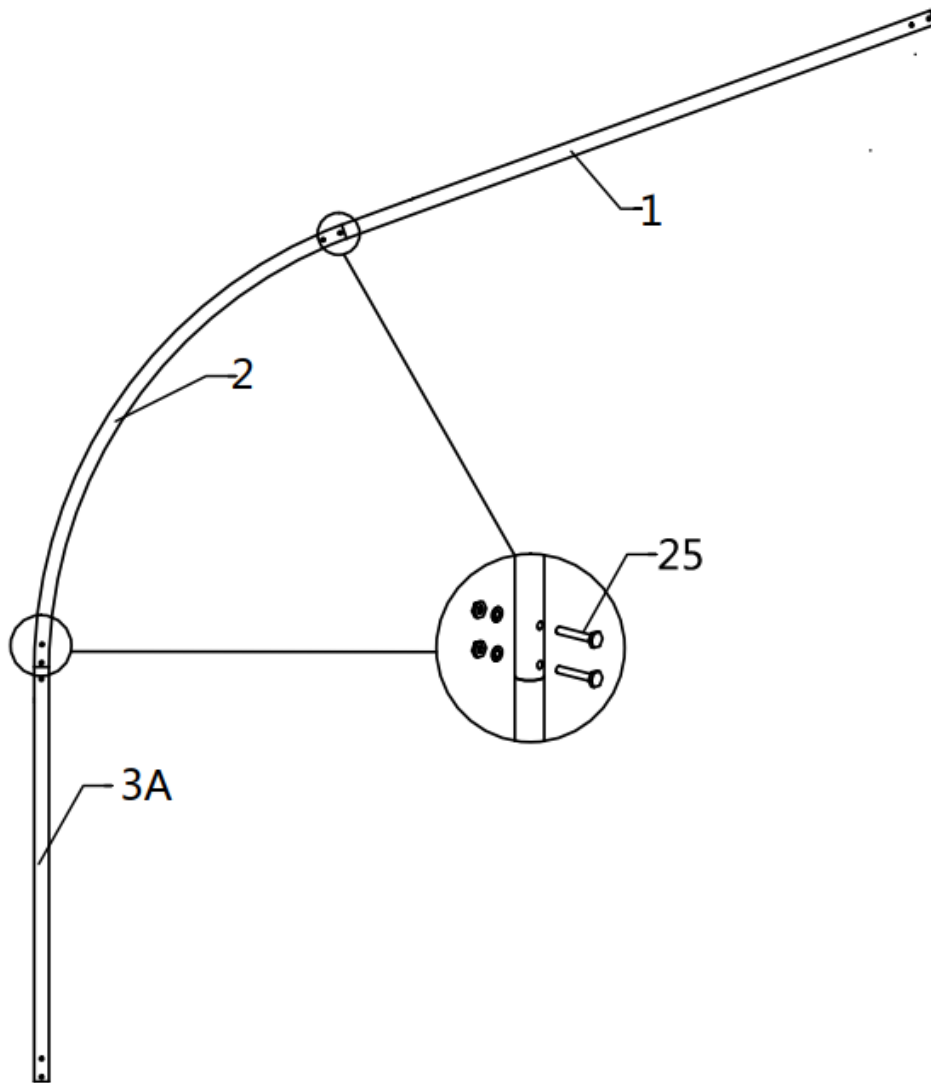

Figure 2
- The building includes 10 trusses : (1) The former truss, and (1) Rear truss, and (8) middle trusses. Please note the difference between the front, middle and rear trusses.
- First assemble the three main pipes of the truss (refer to figure 2) .Note the distinction between sidewall tube (#3) and sidewall tube (#3A)
- (1) Top inclined tube (#1)